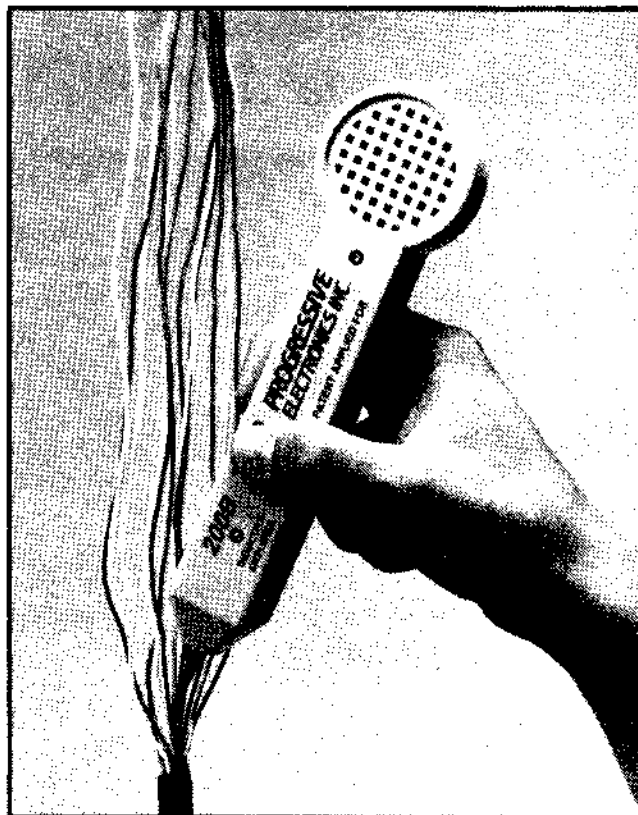

Figure 1 Inductive Amplifier in Use
| FIGURE 1 Inductive Amplifier in Use .....   | 1    |
1.01 This section provides information on the Model 200B inductive Amplifier manufactured by Progressive Electronics Inc. (See Figure 1)